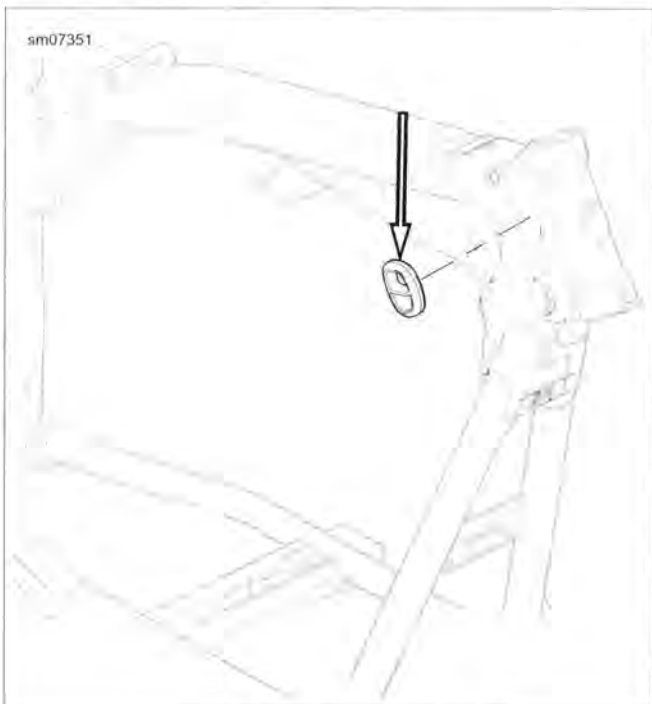
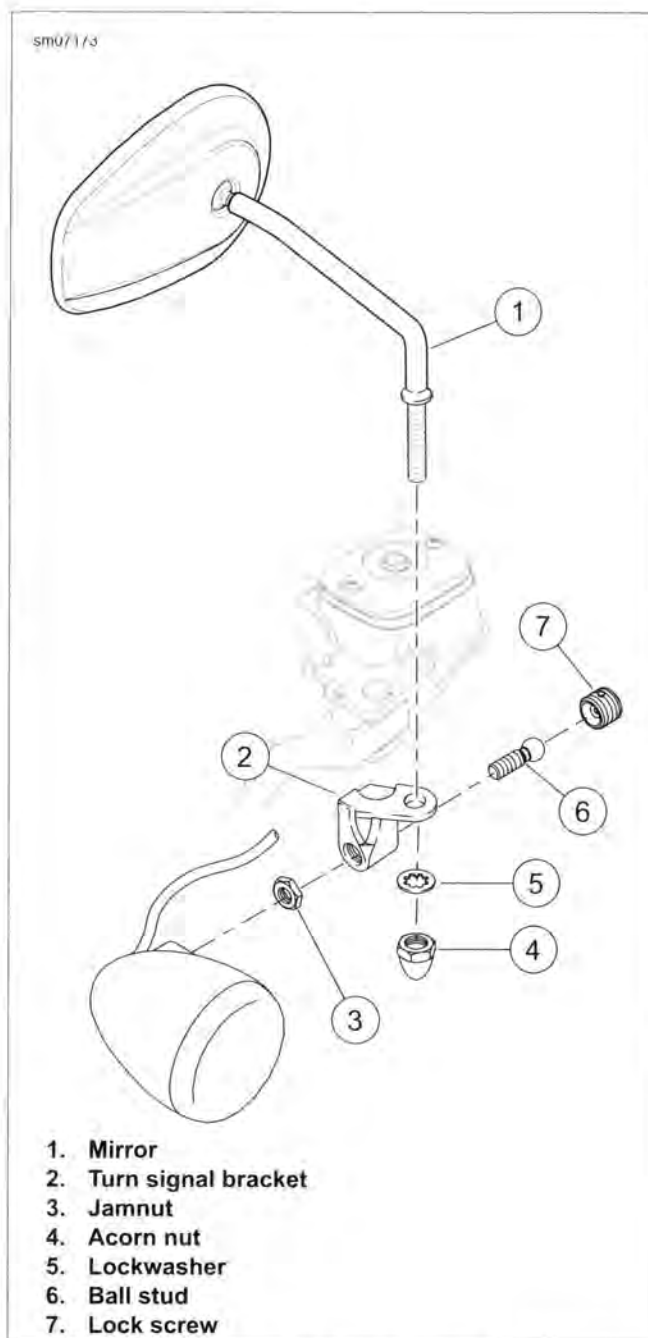

Figure 7-48. Frame Grommet
Figure 7-49. Front Turn Signals: FLD
1. See Figure 7-48. Remove grommet from frame.
6. See Figure 7-49. Loosen jamnut (3). Remove lamp housing from ball stud (6).
7. If turn signal bracket (2) requires removal, remove acorn nut (4).
1. See Figure 7-49. If removed, install turn signal bracket (2) and acorn nut (4). Tighten to 84-156 in-lbs (9.5-17.6 Nm).
2. Install lamp housing to ball stud (6). Tighten jamnut (3) securely.
3. Adjust turn signal as required and tighten lock screw (7).
7. See Figure 7-48. Connect to vehicle harness. Push connector into frame. Install grommet.